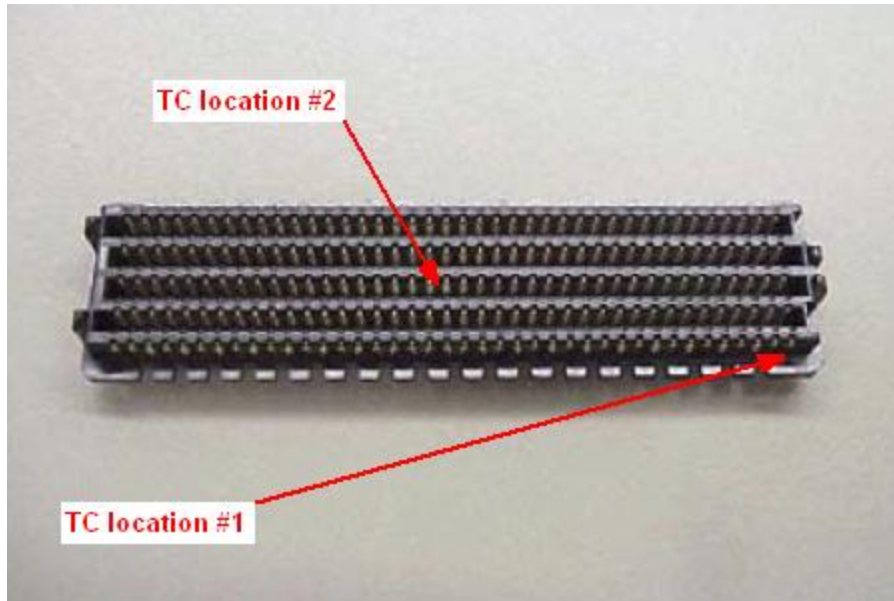

Fig. 6. Top side reference of thermocouple locations for reflow profiling.
- The importance of properly profiling the fully populated printed circuit assembly cannot be understated. The reflow process that forms the solder joint is sometimes overshadowed by other processes but is critical to ensuring the solder charge reaches proper reflow conditions. Certain components can be sensitive to time and temperature, so both variables must be controlled and a thermal profile must be performed prior to processing or production. Thermocouples should be placed as close to the solder charge as possible (**underneath the part**) in the center and on the outside edge (see **Fig. 6**).